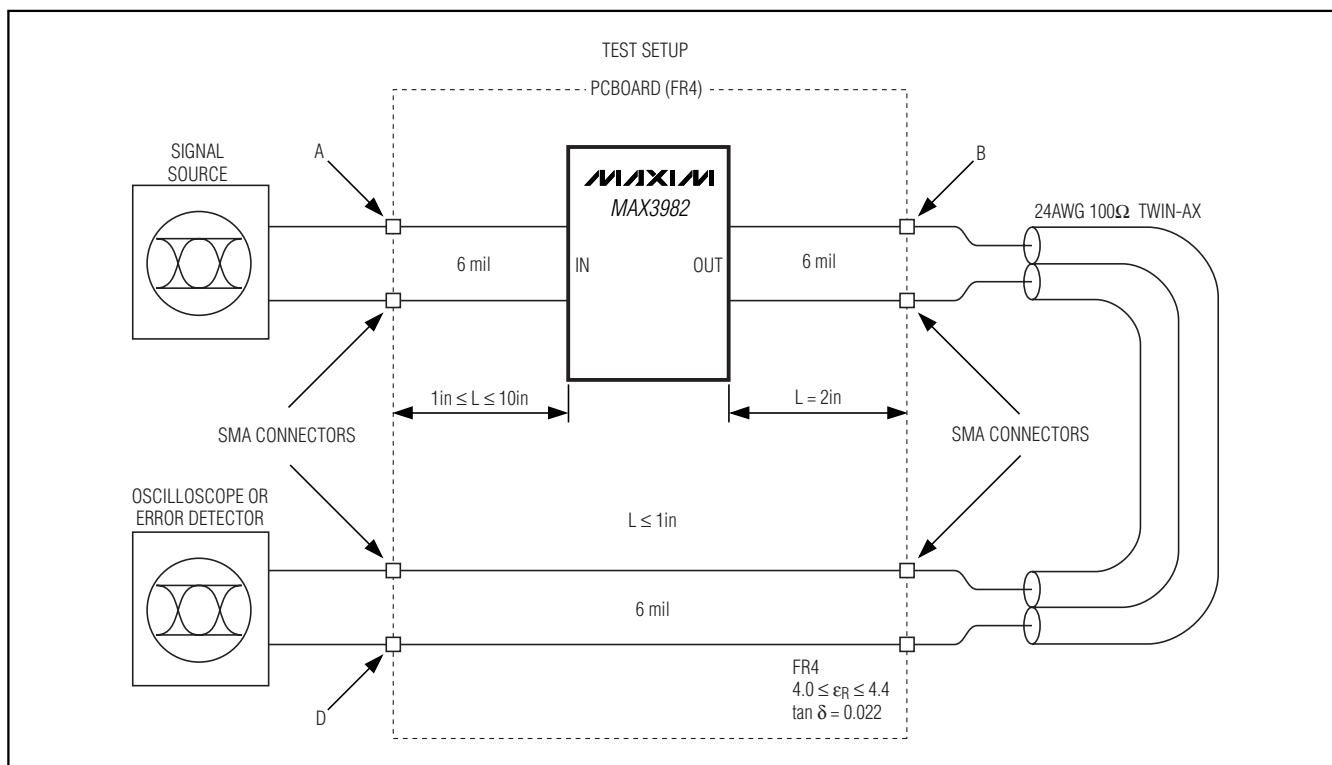

Figure 2. Test Setup. The points labeled A, B, and D are referenced for AC parameter test conditions. Deterministic jitter and eye diagrams measured at point D.
**Note 3:** Measured at point B in Figure 2 using 0000011111 at 1Gbps. PE1 = PE0 = 0 for minimum preemphasis. For transition time, the 0% reference level is the steady-state level after four zeros, just before the transition. The 100% reference level is the maximum voltage of the transition.
**Note 5:** Cables are unequalized, Amphenol Spectra-Strip 24AWG. Residual deterministic jitter is the difference between the source jitter at point A, and load jitter at point D in Figure 2. The deterministic jitter at the output of the transmission line must be from media-induced loss and not from clock-source modulation.